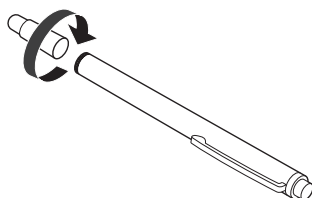

Figure 1
- 1) Rotate the cap of the pen in the direction as shown in Figure 1.